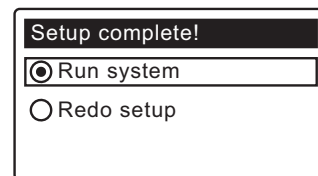

FIG. 19
- Press the SELECT (○) button. The screen will show “Setup complete!” (See Figure 19).
- If no changes are desired, make sure **Run system** has a black dot next to it (See Figure 19) and press the SELECT (○) button. The unit begins normal operation, described on the next page.